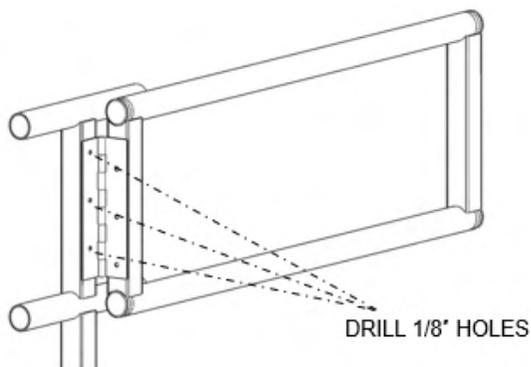

FIG. 7.15
7.8.4. Using the holes in the hinge as a template, mark locations with a pencil, then drill three 5/16" holes through both sides of the vertical handrail tube (FIG. 7.15). Install fasteners through hinge and vertical handrail tube and secure as shown (FIG. 7.16).